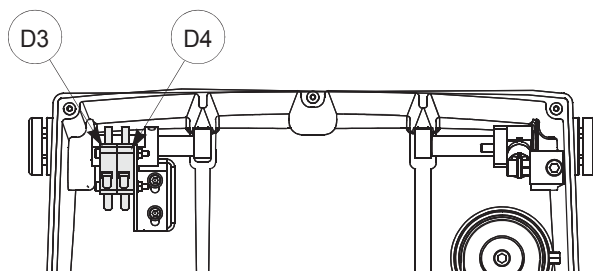

Fig. 130
Protective shield is closed but the display reads "close shield"	a) the closed protective shield is not making proper contact with the microswitch (D3) (fig. 130)
b) cutter microswitch on protective cover triggered or disconnected (D4) (fig. 130).